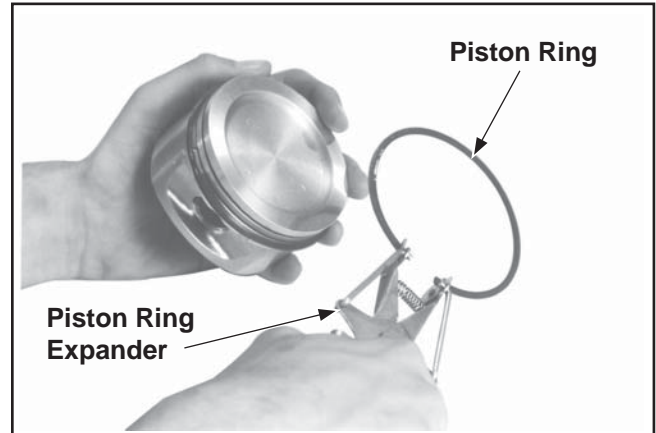

**Figure 9-9. Measuring Piston Ring Side Clearance.**
5. After installing the new compression (top and middle) rings on the piston, check the piston-to-ring side clearance. Compare the clearance to specifications listed in Section 1, Specifications and Tolerances. If the side clearance is greater than specified, a new piston **must** be used. Refer to Figure 9-9.